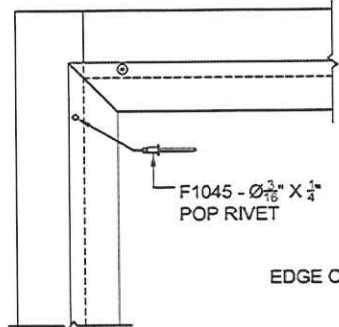
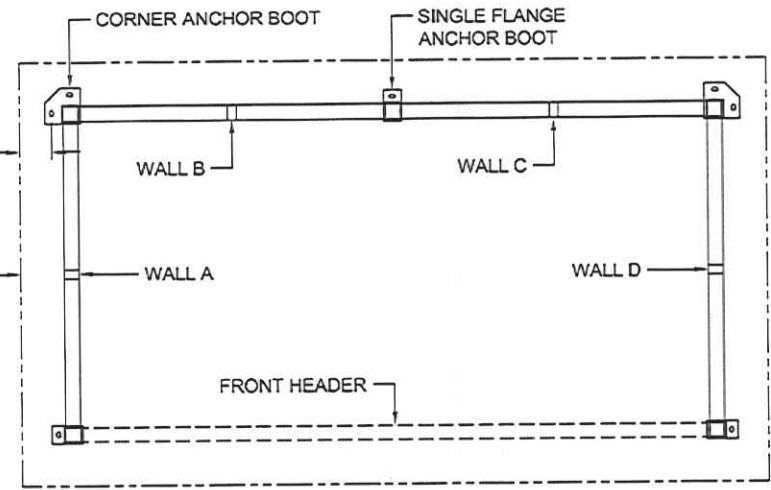

FIGURE 2
FIGURE 3
NOTE: FIGURE 3 SHOWS A GENERIC WALL LAYOUT. SEE WALL LAYOUT PROVIDED FOR ACTUAL CONFIGURATION.
- 1) START WITH THE LEFT SIDE WALL AND LEFT BACK WALL. SET COLUMNS IN ANCHOR BOOTS. (ANCHOR BOOTS CAN BE ALIGNED UNDER SILLS OR TO OUTSIDE OF SHELTER AS SHOWN IN FIGURE 3) SLIDE HEADER AND SILL TUBES ONTO CORRESPONDING TUBE CLIPS UNTIL FULLY ENGAGED. USING THE DRIVE RIVET TOOL, ATTACH TO CLIPS WITH F1048 - Ø½" X ⅜" FLAT HEAD DRIVE RIVETS.
- 2) REPEAT STEP 1 FOR REMAINING WALL SECTIONS, FRONT HEADER AND CROSS BRACE(S) CONNECTIONS.
- 3) WHERE WALL SECTIONS WERE CONNECTED, USE #11 (Ø.191") DRILL BIT TO TRANSFER HOLES IN GLAZING SASH TO COLUMNS. SECURE SASH TO COLUMN WITH F1045 - Ø ⅜" X ¼" POP RIVET (FIGURE 2).